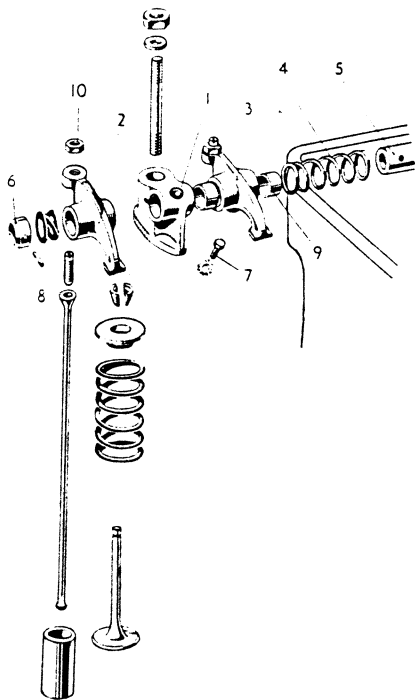

FIG. 11
### Rocker Assembly (Fig. 11)
1. Assemble rockers and springs on shaft as shown in Fig. 11 with pairs of rockers converging towards valve pad ends and with the rear pedestal, which has the oil feed drilling, located at the radially drilled and tapped shaft end.